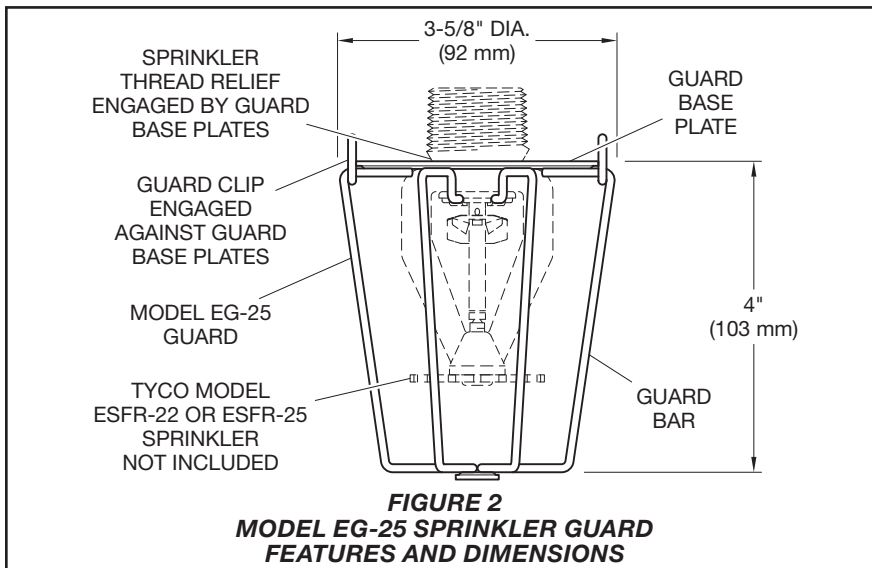

FIGURE 2
- The Model EG-25 Sprinkler Guard, shown in Figure 2, provides protection for TYCO Model ESFR-22 and ESFR-25 Pendent Sprinklers from mechanical and/or physical damage, for example, rack storage sprinkler installations.
See Figure 2 for guard features and dimensions and Figure 3 for installation details.
Note: The Installation Tool shown in Figure 2 may be used as an aid when sliding and seating the clips. Pliers may be used in addition to the Installation Tool to facilitate seating the clips.